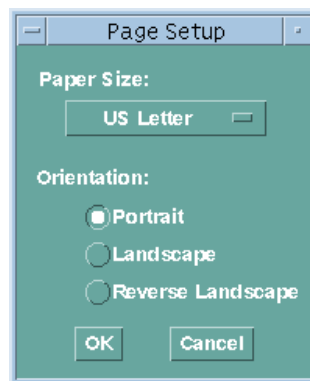

Figure 3-15 Page Setup dialog
- General** The Print windows (cf. Figure 3-15, Figure 3-16 and Figure 3-17) are used from any application within AEM to generate an output of data.
The Print dialog (cf. Figure 3-16) pops up after clicking on **OK** in the Page Setup dialog (cf. Figure 3-15, page 3-34).